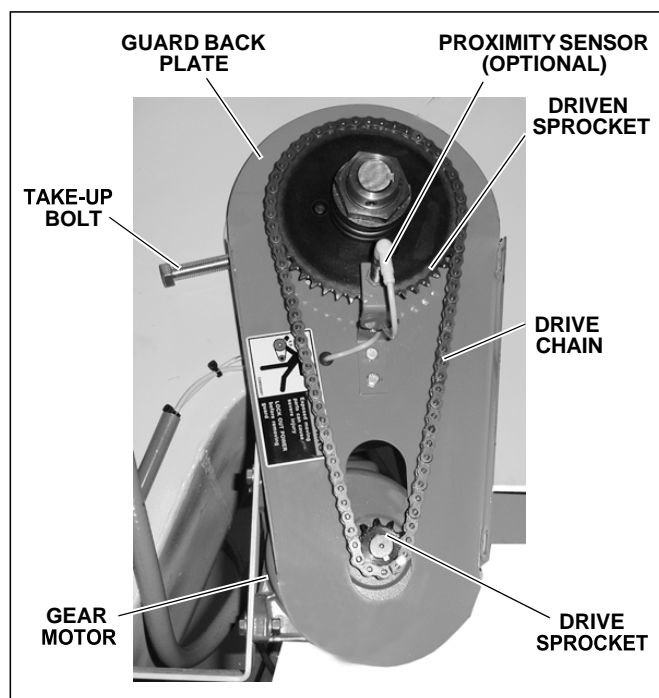

Figure 25. Second Stage Drive
3. Refer to Figure 25 and disconnect the drive chain that connects the gearmotor and headshaft, (If a shaft-mounted gearmotor is used, the gearmotor will have to be removed from the headshaft.) This allows the drum to be rotated by hand.